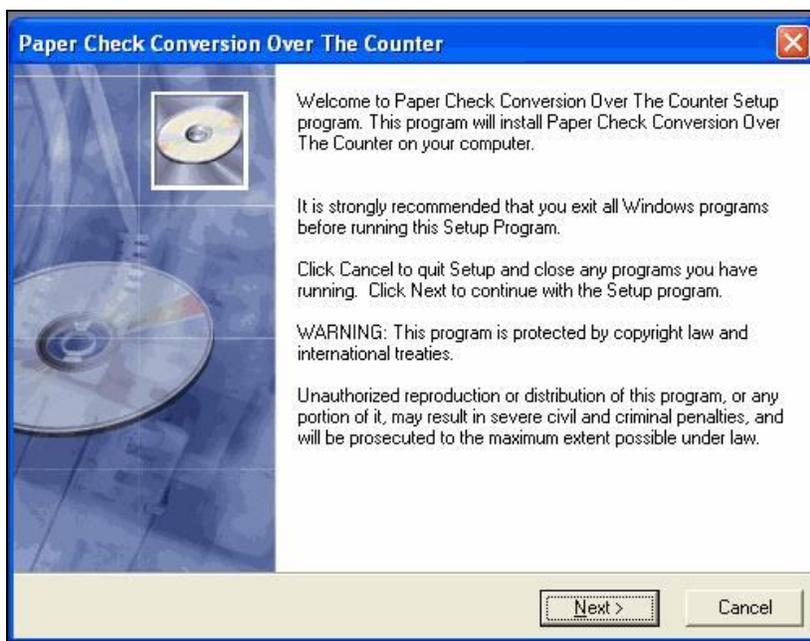

Figure 2.5
9. The 'Paper Check Conversion Over the Counter Welcome' window appears (Figure 2.5). Click 'Next'.